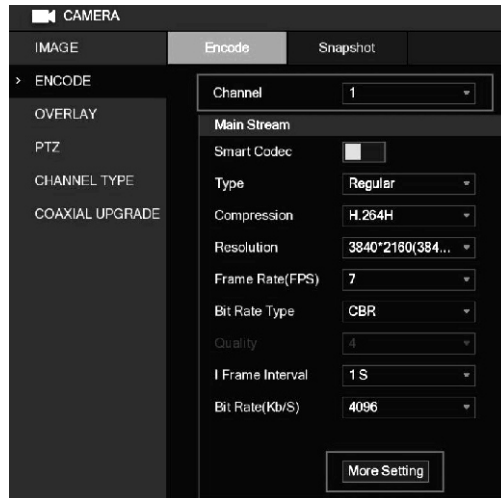

Figure 4-3
The Encode setting interface is displayed. See Figure 4-3.
**Step 6** In the Encode setting interface (Figure 4-3), click **Apply**.